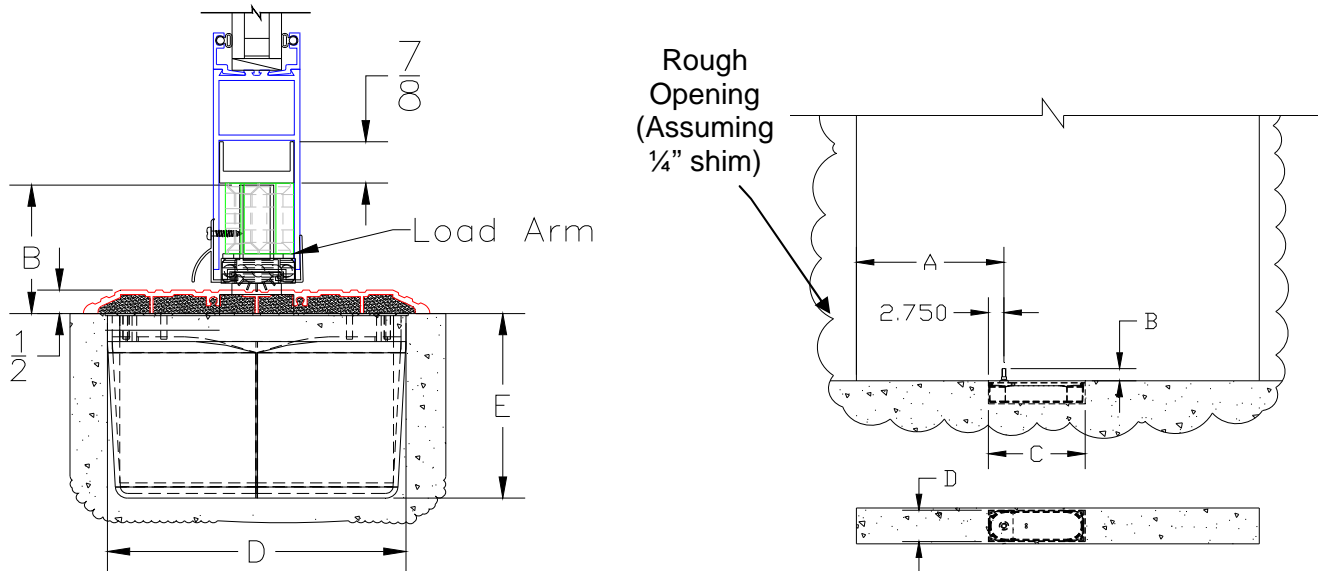

Figure 3:
4. Verify location /dimension of cement case opening (see Figure 3 & Table II).